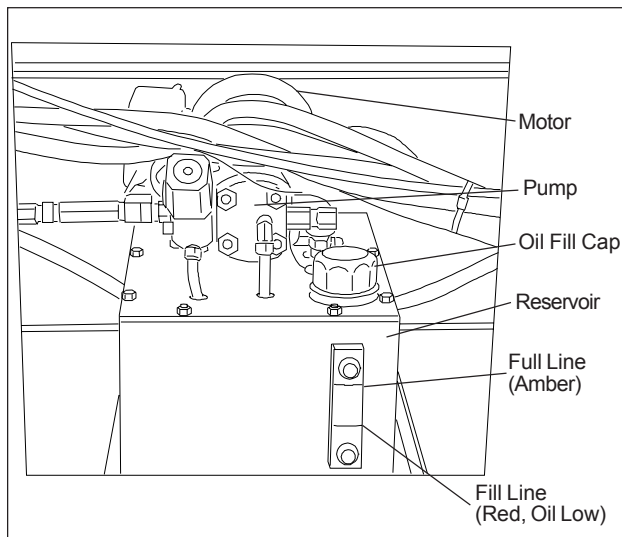

Figure 16: Checking Hydraulic Oil Level
2. Check oil level (refer to Figure 16). If level is below the yellow (upper) line, the reservoir should be filled.